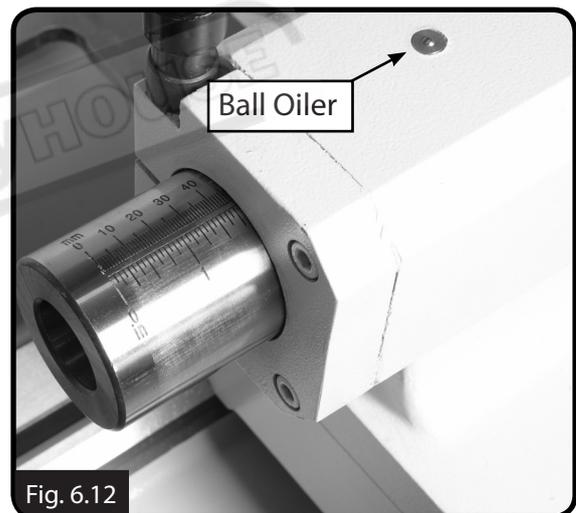

Fig. 6.12
- Tailstock ball oilers (Fig. 6.12)